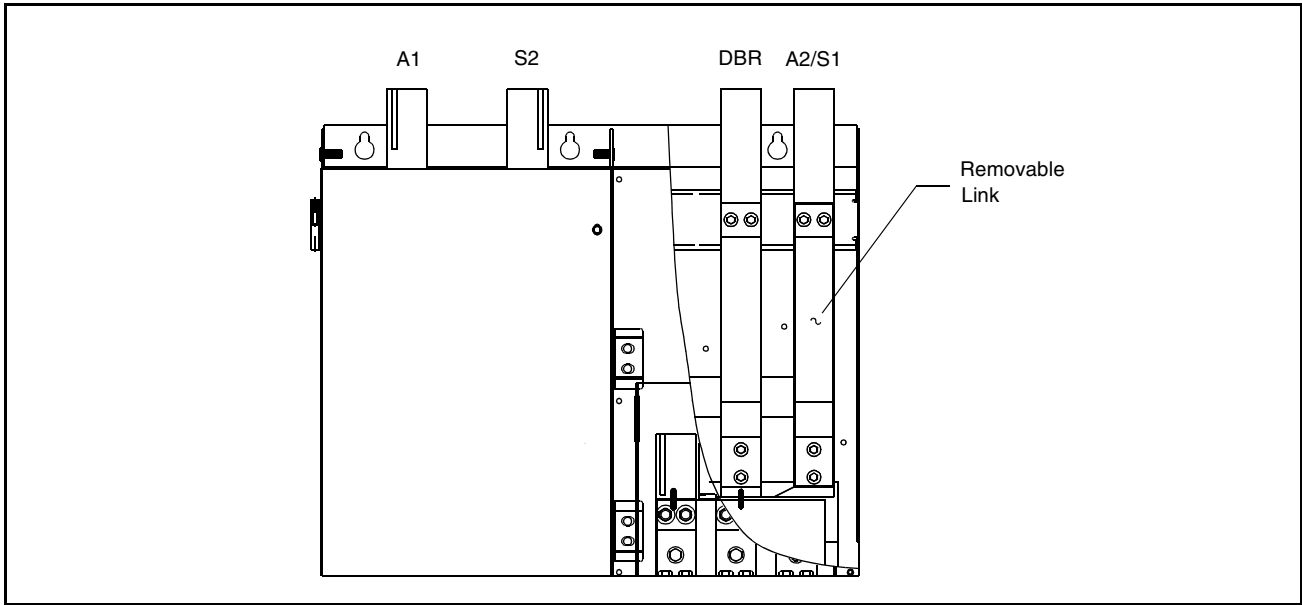

Figure 6 – Removable Link Accessed Through the Top of the Drive
- Step 2. Remove the Removable Link (see figure 6). It is a bus section below the A2/S1 terminal and is accessed through the top of the drive as shown. At the top, the A2/S1 terminal and Removable Link are fastened with two nuts and bolts, spaced horizontally. Remove them and set them aside along with the A2/S1 terminal for subsequent re-installation. At the bottom, remove the two bolts spaced vertically and set them aside. Take the Removable Link (bus section) out of the drive.
- Step 2. Remove the Removable Link (see figure 6). It is a bus section below the A2/S1 terminal and is accessed through the top of the drive as shown. At the top, the A2/S1 terminal and Removable Link are fastened with two nuts and bolts, spaced horizontally. Remove them and set them aside along with the A2/S1 terminal for subsequent re-installation. At the bottom, remove the two bolts spaced vertically and likewise set them aside. Take the Removable Link (bus section) out of the drive.